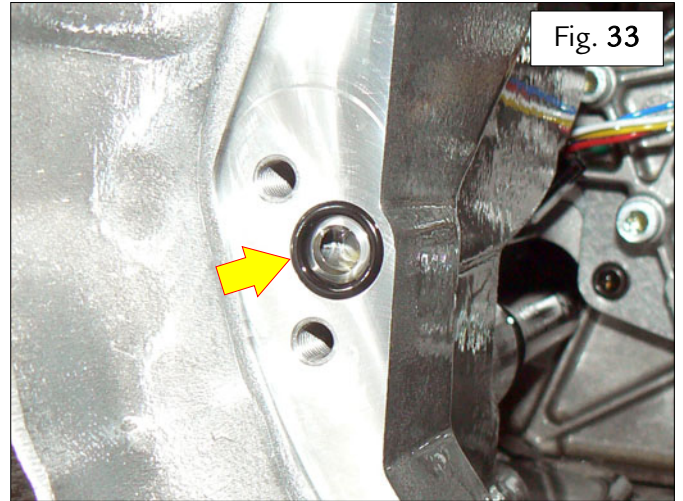

Fig. 33
- Remove the O-ring from the differential housing and close the orifice with a suitable plug – Fig. 33.